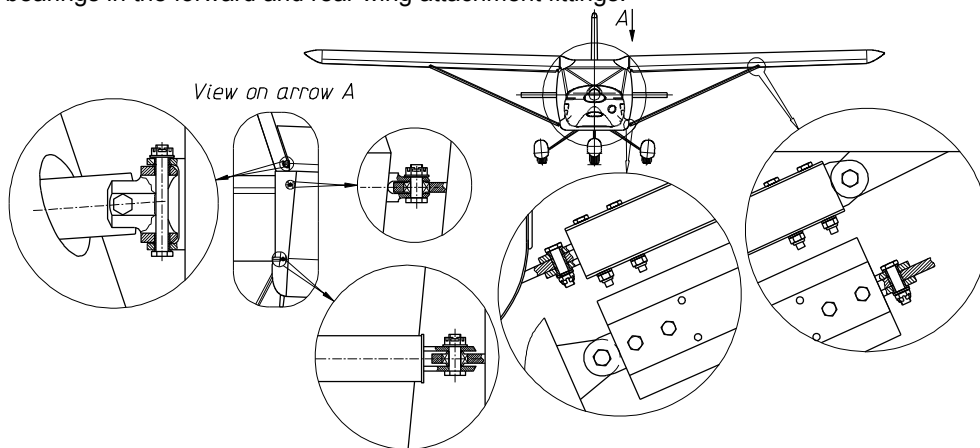

Fig. 17 Wing removal
Left and right wings shall be removed in turn (in any order) according to the following sequence (see **Fig. 17**):
4. Disconnect the full and static pressure lines at their joints (left wing, see **Fig. 17**).